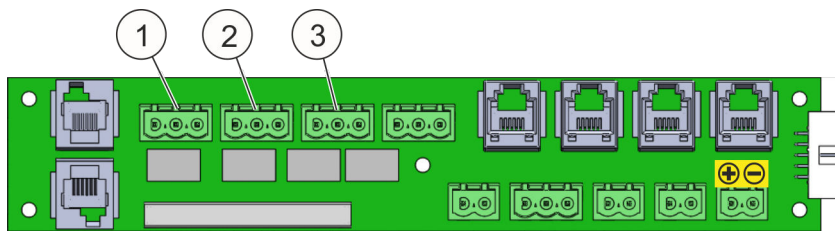

Fig. 16: Potential-free contacts
- Use the floating contacts (Fig. 16/1 to 3) for the device shutdown that is to be realized by the operator.